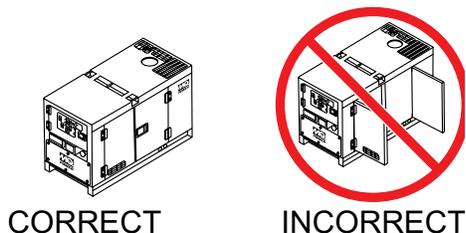

Figure 35. Engine Enclosure Doors
5. Close all engine enclosure doors (Figure 35).